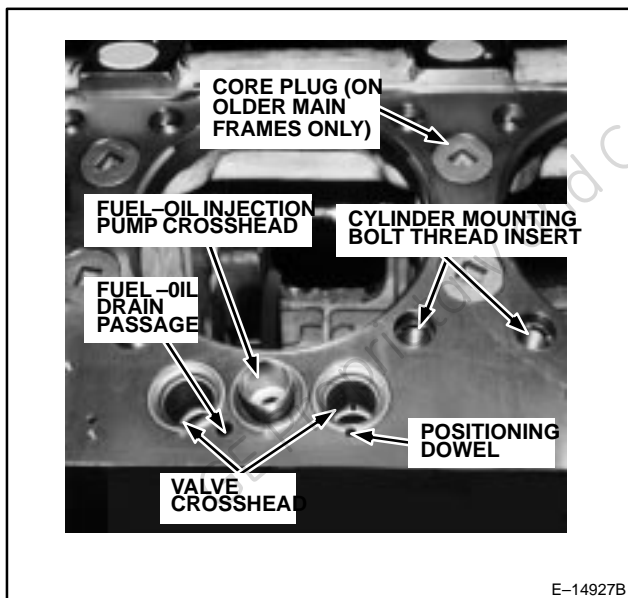

Figure 58. Crosshead Assembly Locations.
Three (3) crosshead assemblies are mounted in the main frame under each cylinder (Figure 58). The crossheads transmit the reciprocating force from the cams to the pushrods to operate the valves and the fuel-oil injection pump on each cylinder.